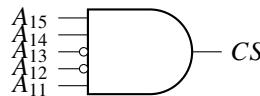

Fig. 3.14
28. The chip select logic for a certain DRAM chip in a memory system design is shown below in Fig. 3.14. Assume that the memory system has 16 address lines denoted by A_{15} to A_0 . What is the range of addresses (in hexadecimal) of the memory system that can get enabled by the chip select (CS) signal?